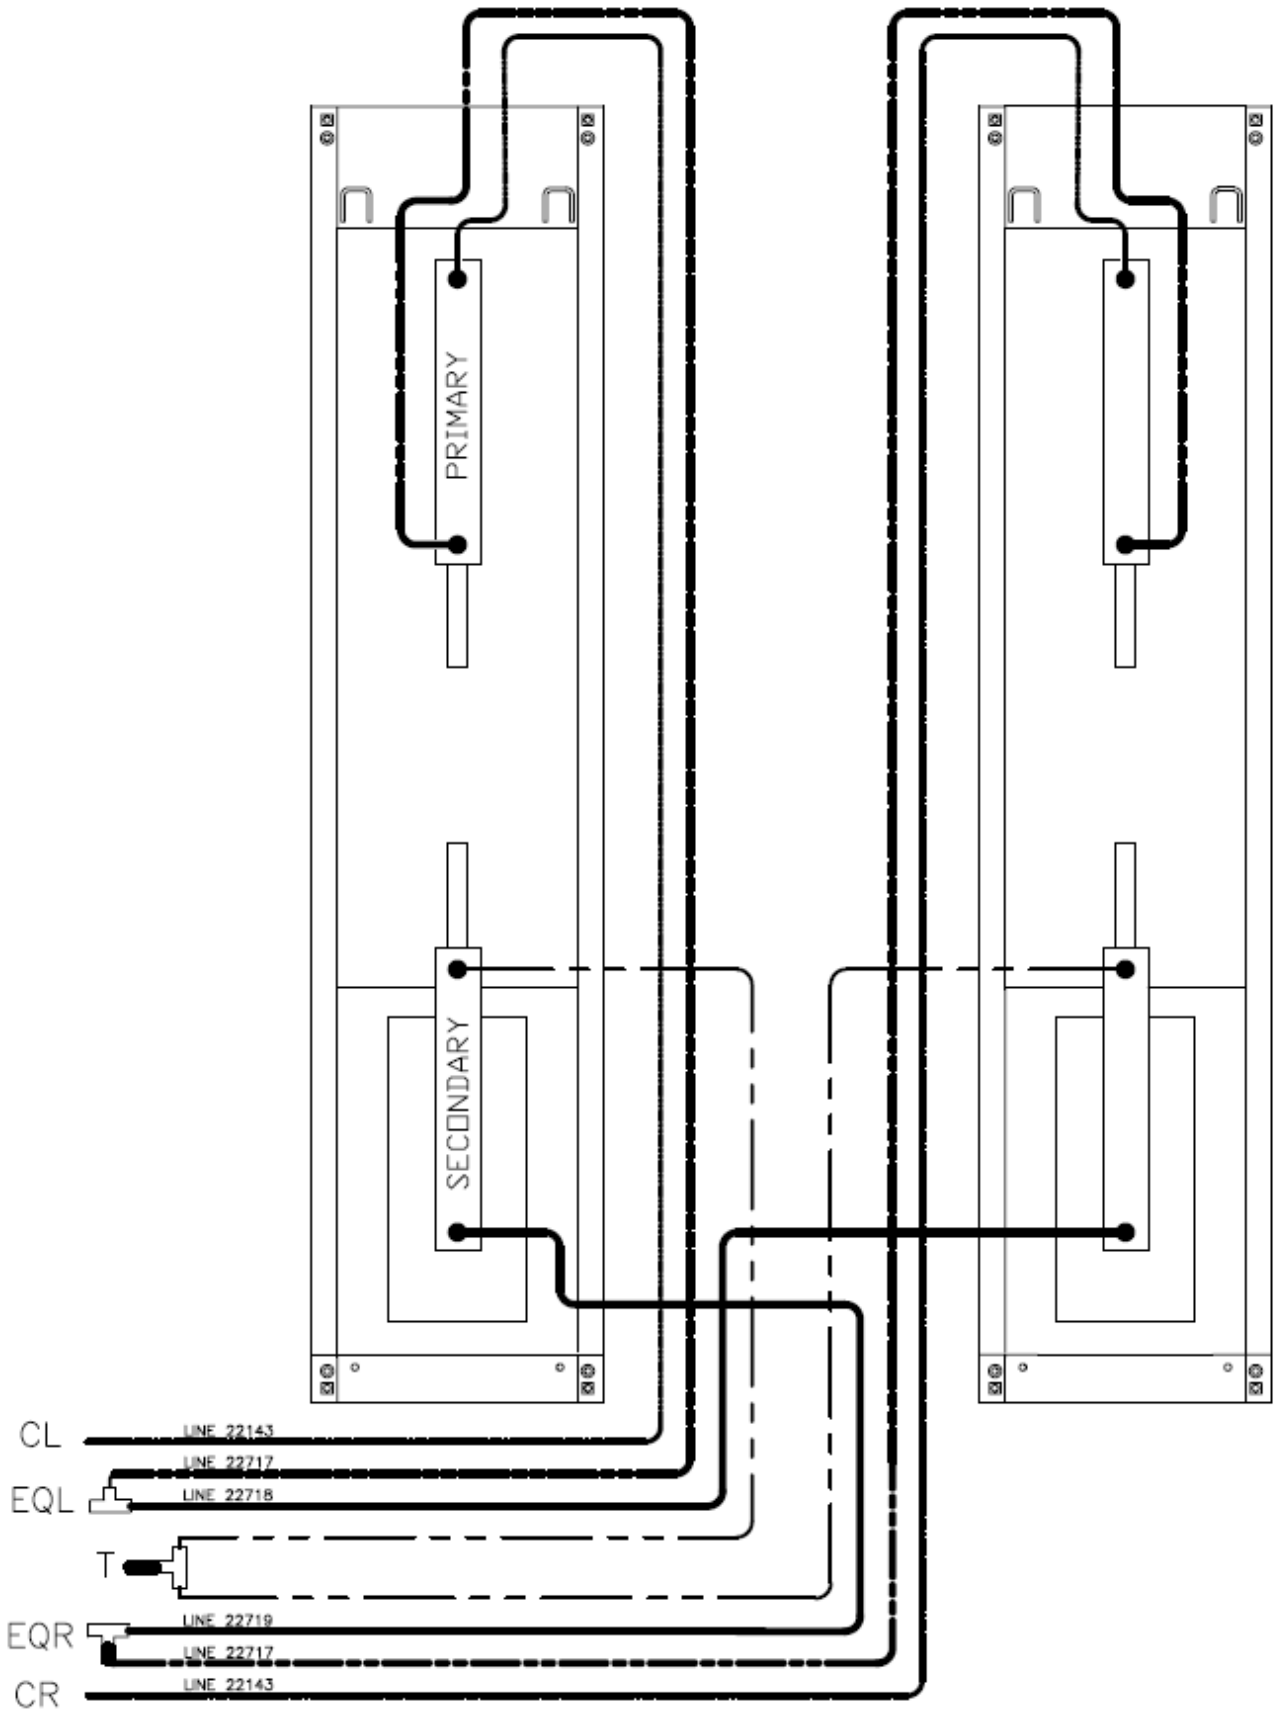

Figure 6 - Hydraulic Connections
4. The 3/8” polytube return lines in the baseframes should be joined inside the console using a 3/8” “T” connector (**Figure 5**) from the hardware kit. To connect the “T” connector to the tank, cut off approximately 6” to 8” (152.4mm to 203.2mm) from either polytube supplied. Next, connect the other end of the tube to the pump connection marked T (Tank) (**Figure 6**)